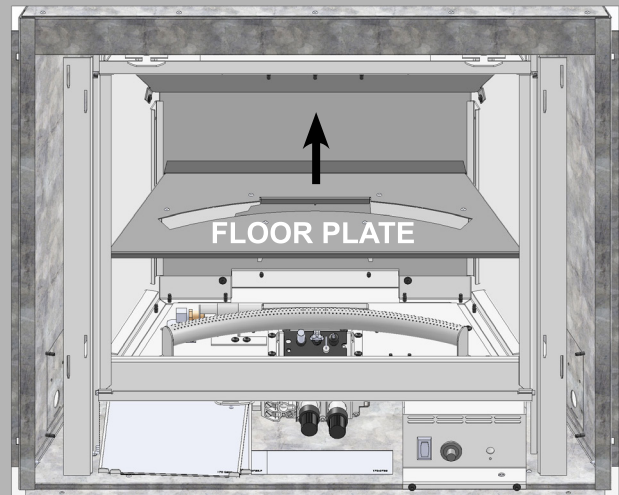

Fig.14
4. Remove floor plate assembly from appliance and set aside. (**Fig.14**)